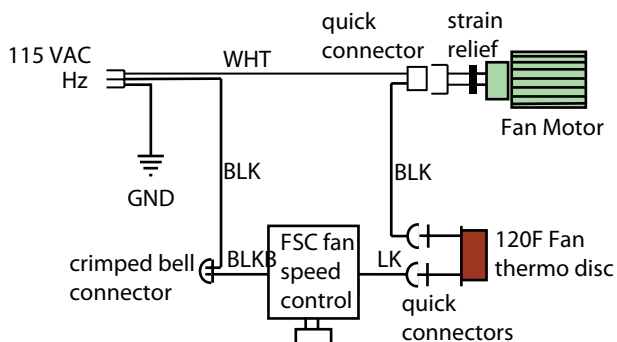

Figure 34. Wiring the fan and fan speed control.
6). Install the fan speed control on the front bracket, and connect the wiring as shown in image (Figure 34).